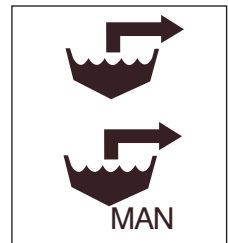

FIGURE 6-2
The Pro Flo™ Plus remote control switch (Figure 6-2) can be used to fill, oxygenate and drain the livewell. To fill the livewell, place the remote control in the “Closed” position. Start the livewell filling pump using the three position livewell switch. Place the switch in “MAN” (manual) position. Turn off the livewell pump once the livewell is full. To oxygenate the livewell, place the remote control in the “Closed” position. Turn on the oxygenation pump using the three (3) positions livewell switch. Place the switch in the “Auto” (automatic timer) position for intermittent oxygenation, if so equipped. This system allows continuous recirculation while running, docked or trailering. To drain the livewell, turn off the pump and place the remote control in the “Open” position. When the livewell is empty, place the remote control in the “Closed” position to prevent water entering the livewell. For complete livewell information see chapter 5.5.